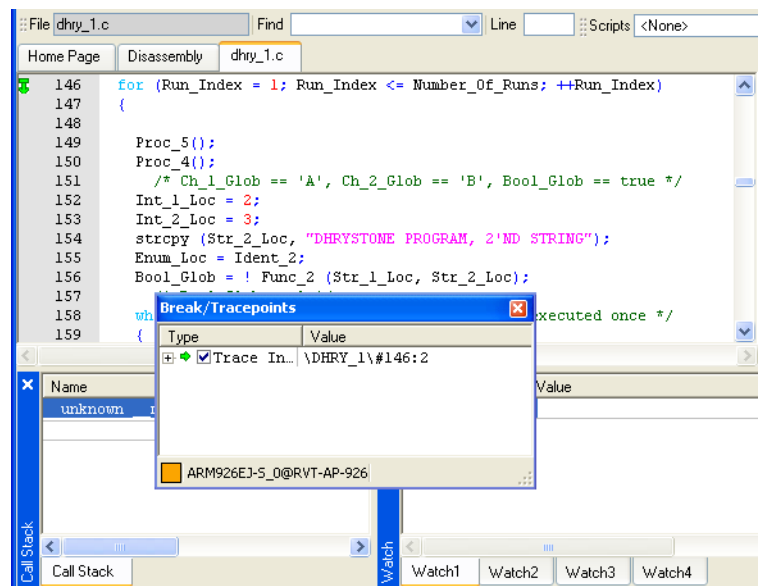

Figure 10-87 Setting a trace start point
- f. Click **OK** to close the New Tracepoint dialog. An arrow  is placed next to line 146 to indicate the start point you have set. Also, details of this tracepoint are displayed in the Break/Tracepoints view of the Code window. Figure 10-87 shows an example: